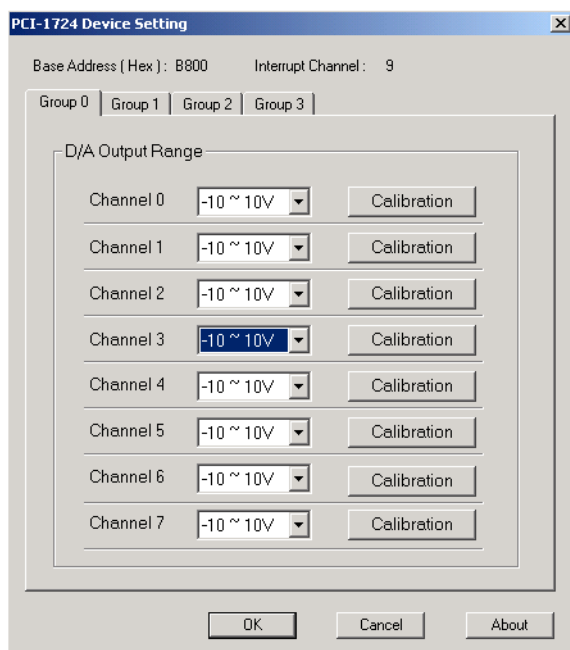

Figure 2.5: The Device Setting dialog box
3. In the Device Setting dialog box (Fig.2-5), you can calibrate the voltage output range for the 8 D/A channels in 4 groups. For more detailed information, please refer to Appendix D Calibration Utility.